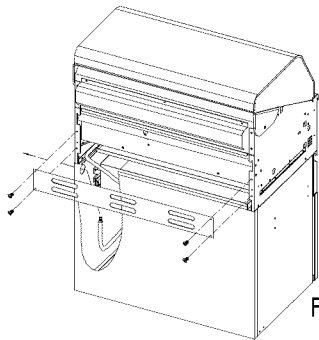
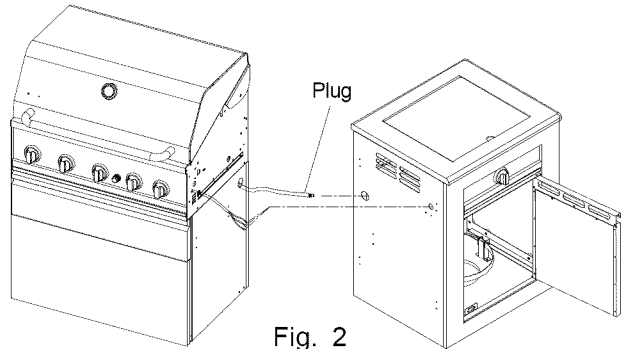

Fig. 1
Fig. 2
- Unscrew the Bowl Rear Upper Panel from Bowl Rear Panel (Fig.1) then insert the connection hose through the hole on the cart right panel of the main grill and then through the hole on the cart left panel of the griddle side grill. (see Fig. 2).